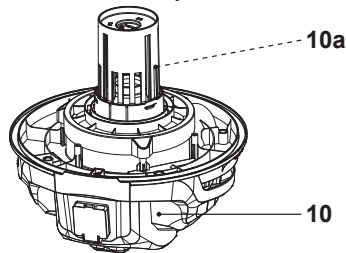

Fig. 20
The product is designed with a safety valve (10a) to prevent water from entering into the motor unit (10) during wet vacuuming operations (Fig. 20). Before using, check that the safety valve moves freely within the cage.